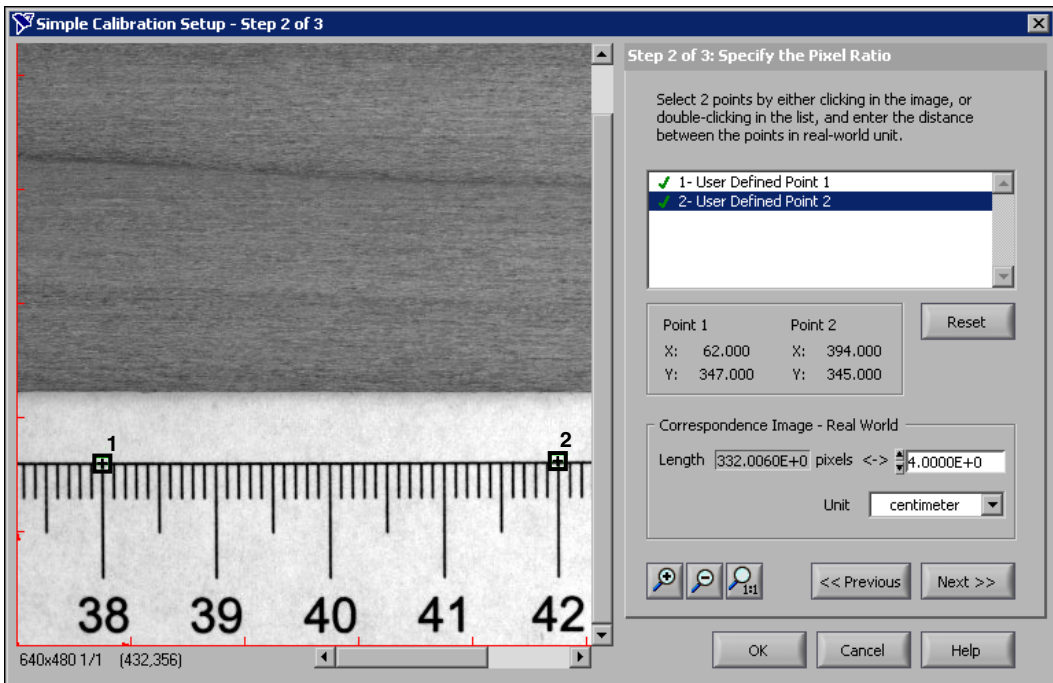

Figure 5-1. Defining the Pixel to Real-World Ratio
8. In **Step 2 of 3**, carefully click the 38 cm and 42 cm markings on the ruler in the image, as shown in Figure 5-1.